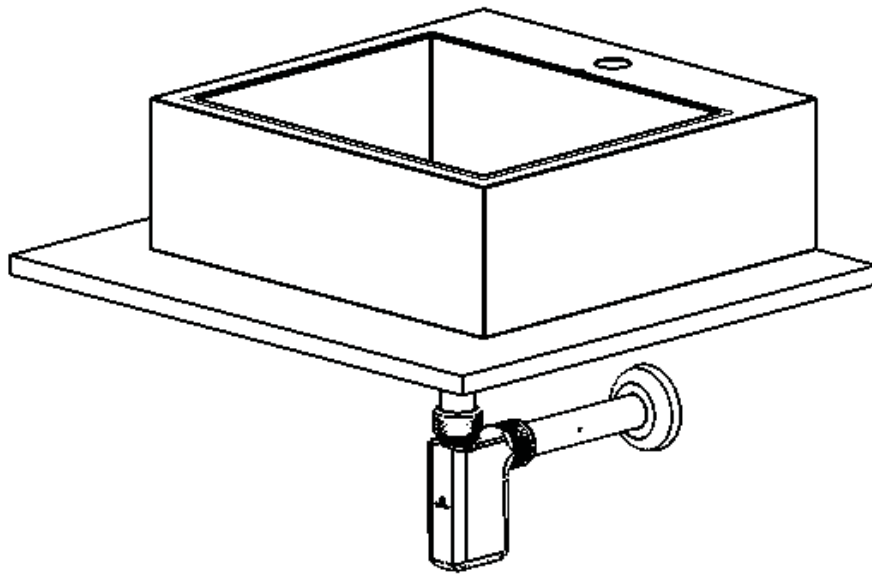

Figure 3
- o Refer to Figure 3 for finished vessel.